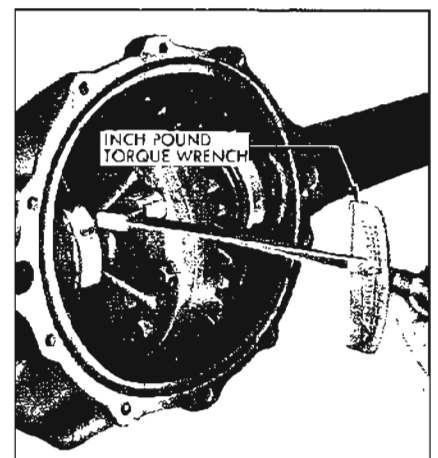

Figure 6-32—Checking Differential Case Preload
4. Rotate differential case several complete turns to seat bearings. Check bearing preload using an inch pound torque wrench connected at ring gear attaching bolt. With wrench projecting approximately straight out, bearing preload should read 30 to 40 in. lbs. with new bearings, or 15 to 25 in. lbs. with reused bearings. See Figure 6-32. If preload is not according to these specifications, increase shim thickness on each side .002" for each additional 10 in. lbs. preload desired, or decrease shim thickness .002" on each side for each 10 in. lbs. preload to be subtracted.